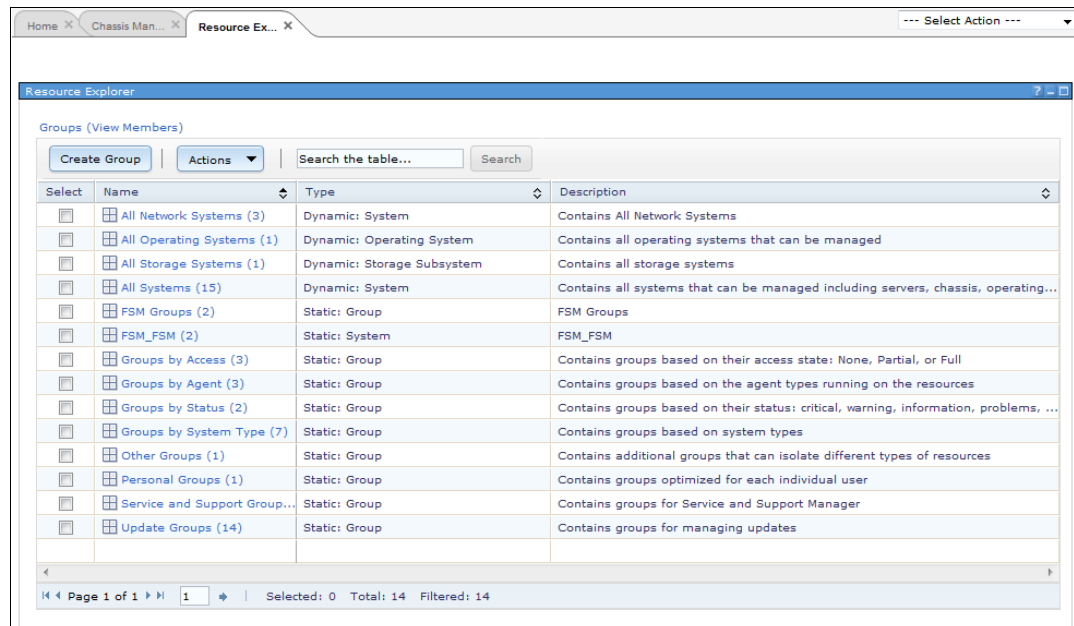

Figure 3-90 Resource Explorer
- Resource Explorer shows a snapshot of all resources in the IBM Flex System Manager managed by the IBM Flex System Manager, as shown in Figure 3-90 on page 145.